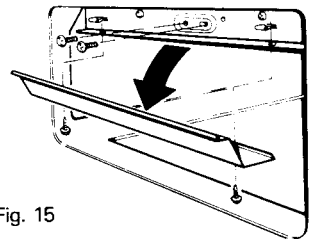

Fig. 15
2. Remove 2 screws from underside of tidy panel (see Fig. 15).